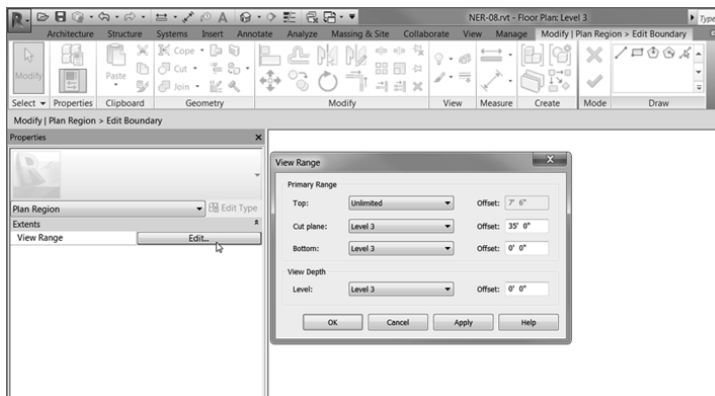

FIGURE 7.36: Setting the View Range for the plan region
5. In the Properties dialog box, click the Edit button in the View Range row (see Figure 7.36).
6. In the View Range dialog box, set Top to Unlimited and Level 3 Cut Plane Offset to 35'-0" (11500 mm), as shown in Figure 7.36.